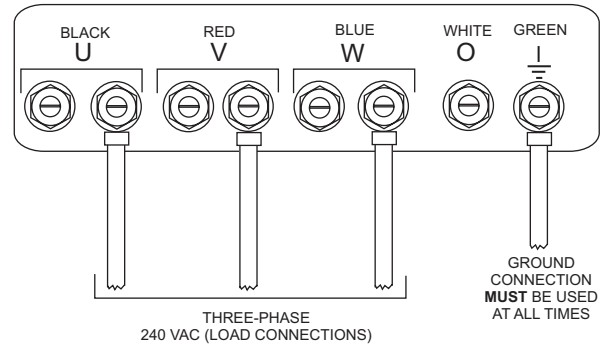

Figure 16. UVWO Terminal Lugs
3. Connect the load wires to the UVWO terminals as shown in Figure 16.